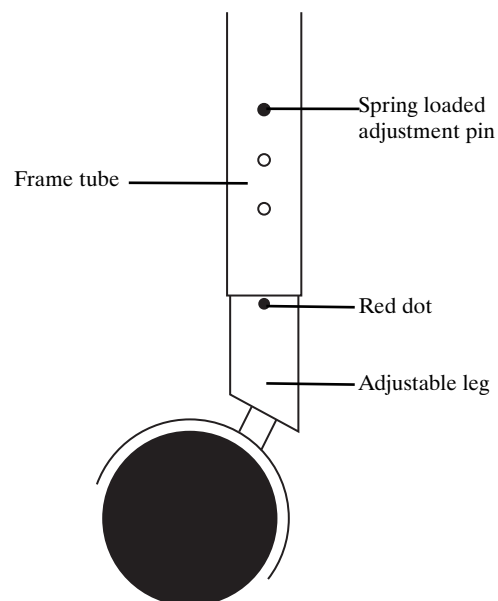

Figure 3 - Leg Height Adjustment
3. Extend the legs to the proper height by pulling the adjustable legs out of the frame. The adjustable legs are marked with a red height indicating dot. Pull the leg out until the red dot is just exposed and rotate until red dot is in line with the holes in the frame tube. The spring loaded adjustment pin should then pop through the frame hole and lock leg into place. (Fig. 3) Repeat for all other legs.